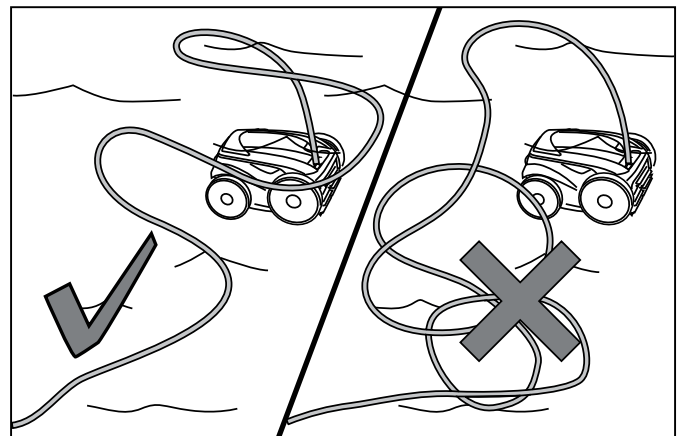

Figure 17. Spread Floating Cable Over the Pool
3. Spread out the floating cable over the pool, ensuring there are no kinks or coils in the cable (Figure 17).